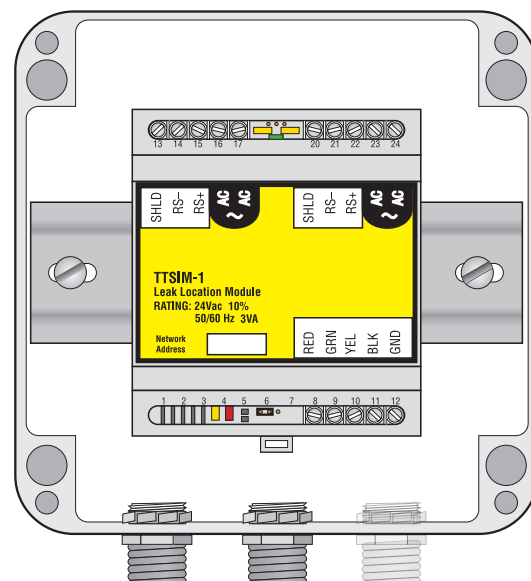

Figure 2. NEMA 4x Enclosure
MOUNTING THE TTSIM-1 MODULE IN THE OPTIONAL NEMA-4X ENCLOSURE – FIGURE 2
- A typical outdoor or harsh environment installation will require up to three holes in the nVent RAYCHEM TraceTek TTSIM-ENC: one for inbound power and telemetry, one for outbound power and telemetry and one for the sensor cable leader. See Figure 2.